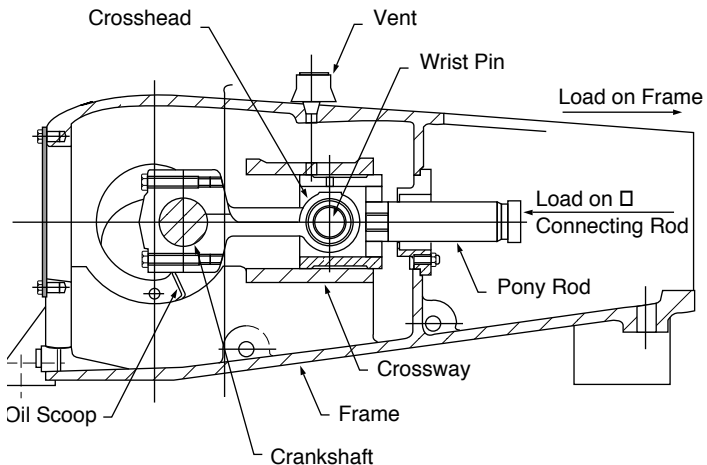

FIGURE 74. Power End of a Horizontal Power Pump
- The power end comprises the crankshaft, connecting rod, crosshead, pony rod, bearings, and frame (Figure 74).